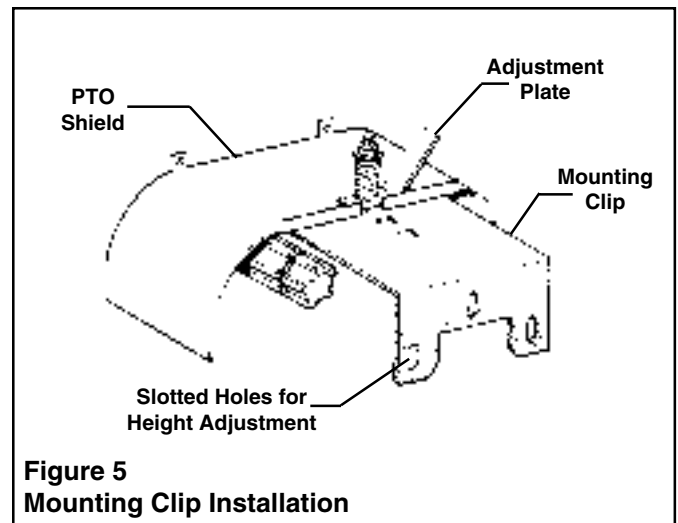

Figure 5
1. When mounting the Mounting Clip to the PTO shield, make sure the Shield is not bent down. This will cause an additional burden on the Pump Bearings. It may be necessary to bend the Shield back to its original position (or higher) to allow the Mounting Clip to slide under the Shield as shown in Figure 5.
It will be necessary to drill a 5/16" center hole in all flat surface shields to properly secure the Mounting Clip to the PTO shield (See Figure 5).